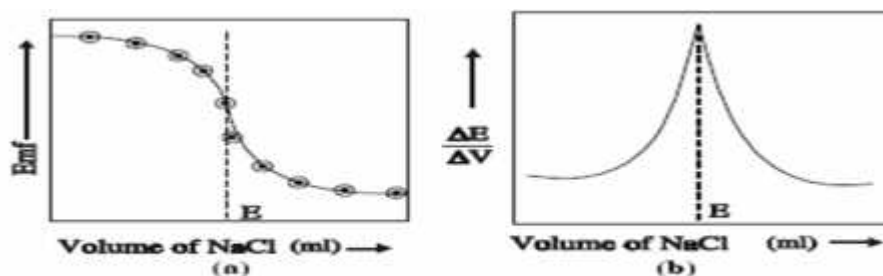

Fig. 1.13 E_{cell} Vs Vol. of NaCl
- When the emf is plotted against the volume of NaCl added a curve of the type shown in figure 1.13 is obtained.